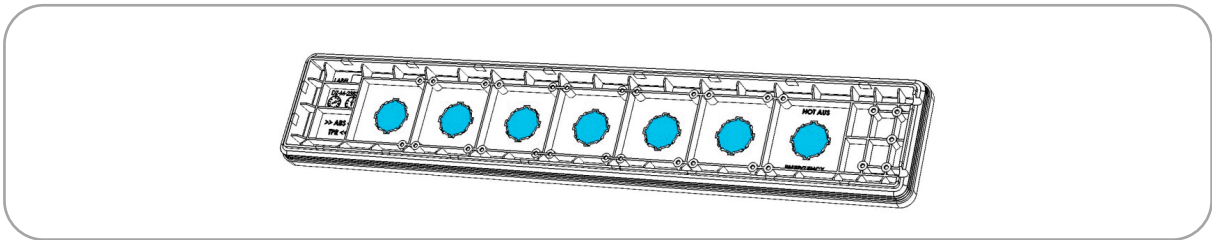

Figure 13: Prepunched openings in key module
- ➔ Punch the required \varnothing 22.5 mm openings in the front coversheet from behind, or cut them out. The openings are highlighted in Fig. 13.